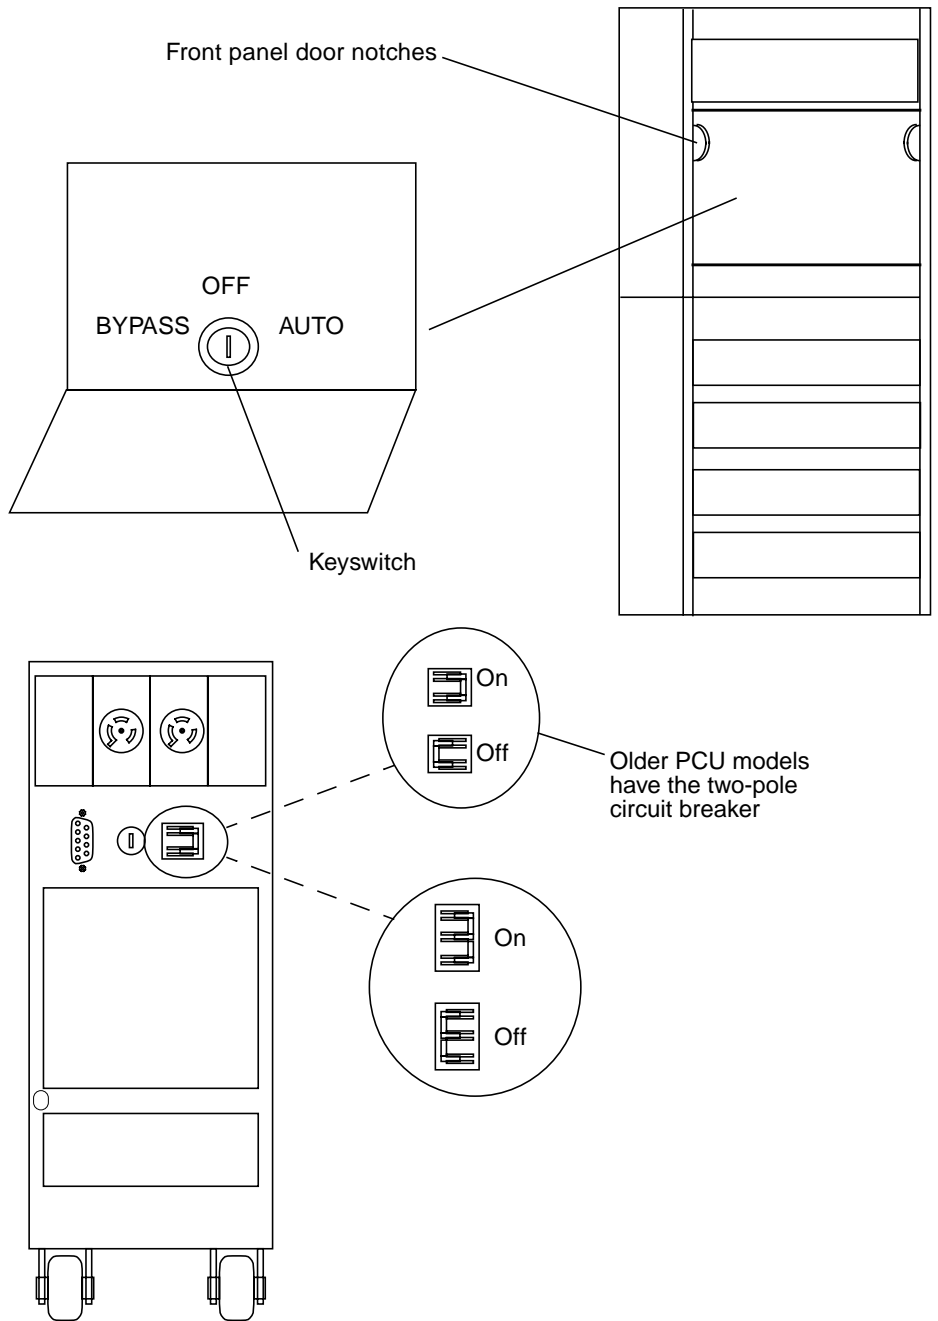

FIGURE 7-4 PCU Keyswitch and Circuit Breaker
2. At the front of the PCU, turn the key switch inside the front panel to AUTO. To open the panel, pull it down at the notches. See FIGURE 7-4.